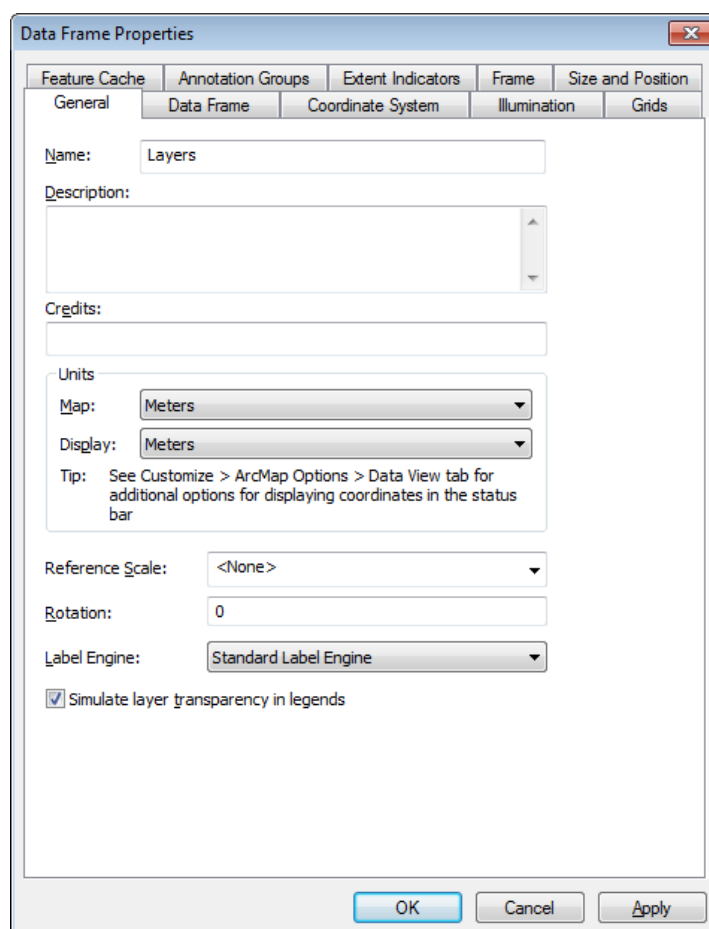

Figure A.3 - General tab of the Data Frame Properties window in ArcMap.
2. The map units can be set to metres directly in ArcMap by clicking **View, Data Frame Properties...** and in the **General** tab, using the dropdown menus to choose metres as the Map and Display units (**Figure A.3**).